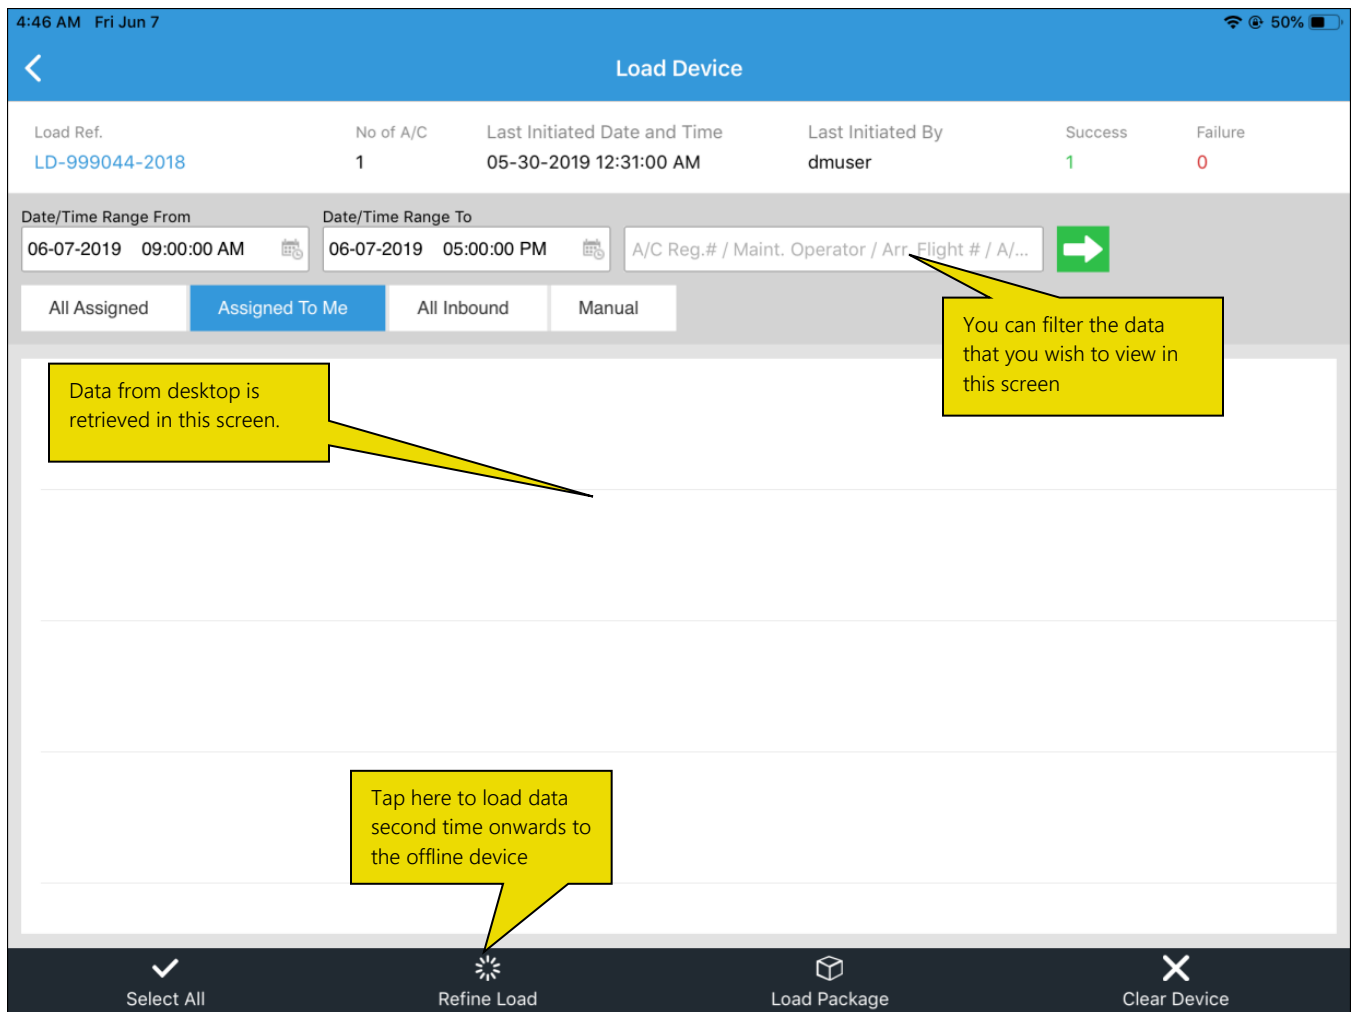

Figure 4.5: The LineAnywhere Login page
2. You can search for specific records from the retrieved data by specifying Key Search code. See Figure 4.5